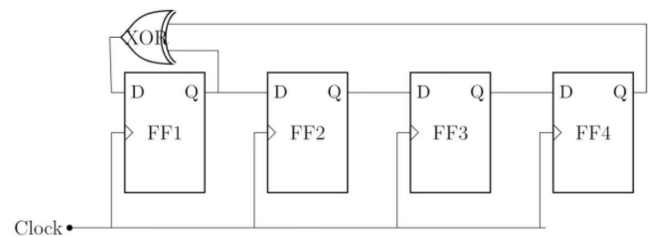

Fig. 3. XOR gate connections
- 4) Connect the XOR gate (7486 IC) to the system of D-Flip flops (shift register) accordingly as shown in the Fig 3.
- 5) Then connect the decoder (7447 IC) and connect its A,B,C,D with Q_0, Q_1, Q_2, Q_3 (outputs of the D-Flip flops) respectively as shown below in Fig. 3.